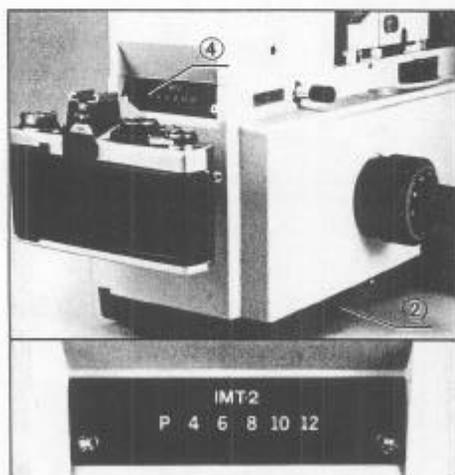
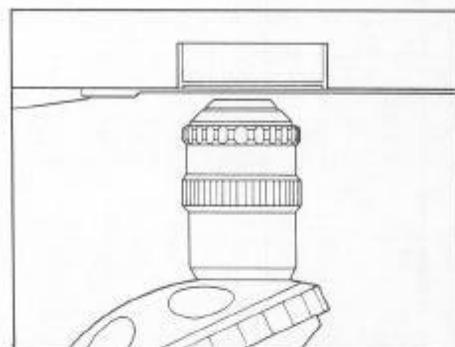

Fig. 19
Fig. 20
- As you push the control lever forward, the LED at the indicator "P" lights up on the left side of the voltmeter ④ to indicate the bulb voltage between 0 ~ 3V. Then, five LED on the right side indicate 4V ~ 12V in increments of 2V. (Fig. 19)
② Place a Specimen on the Stage.
- ★ If you rotate the nosepiece or move the cross-movement stage after focusing on the specimen in a vessel, the lower surface of which is positioned more than 1 mm above the stage surface, the front lens of the objective may sometimes hit against the insert plate from underneath. (Fig. 20) Therefore, it is necessary to ascertain its safety before rotating the nosepiece. If there is any possibility to impinge, it is safe to lower and then rotate the nosepiece.